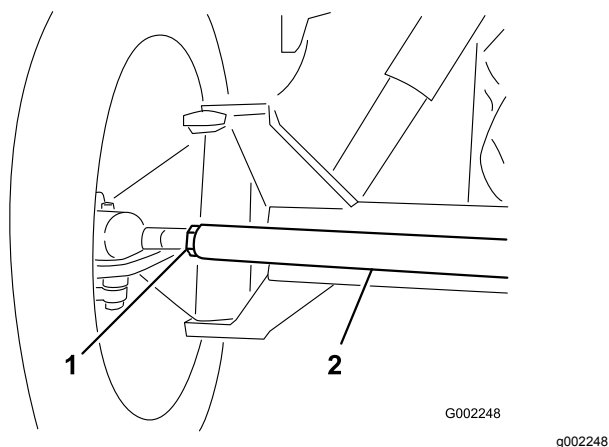

Figure 87
3. If the measurement does not fall within the specified range, loosen the jam nuts at both ends of the tie rod (Figure 87).